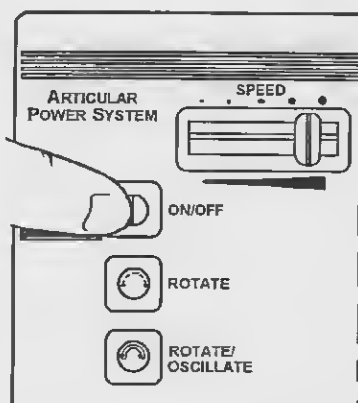

Figure 2-10. Mode selection.
- a. Turn the APS on by depressing the **ON/OFF** switch (fig 2-10) on the left side of the APS console front panel.